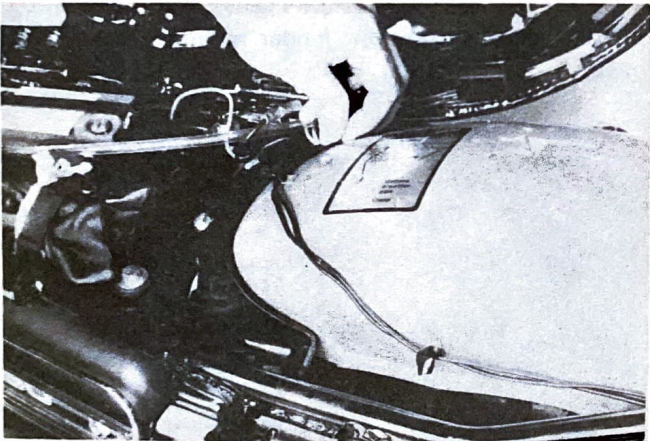

Fig. 34
24. a. After installing the flasher lamp, clamp the lead wire to the top of the rear fender. (Fig. 34)